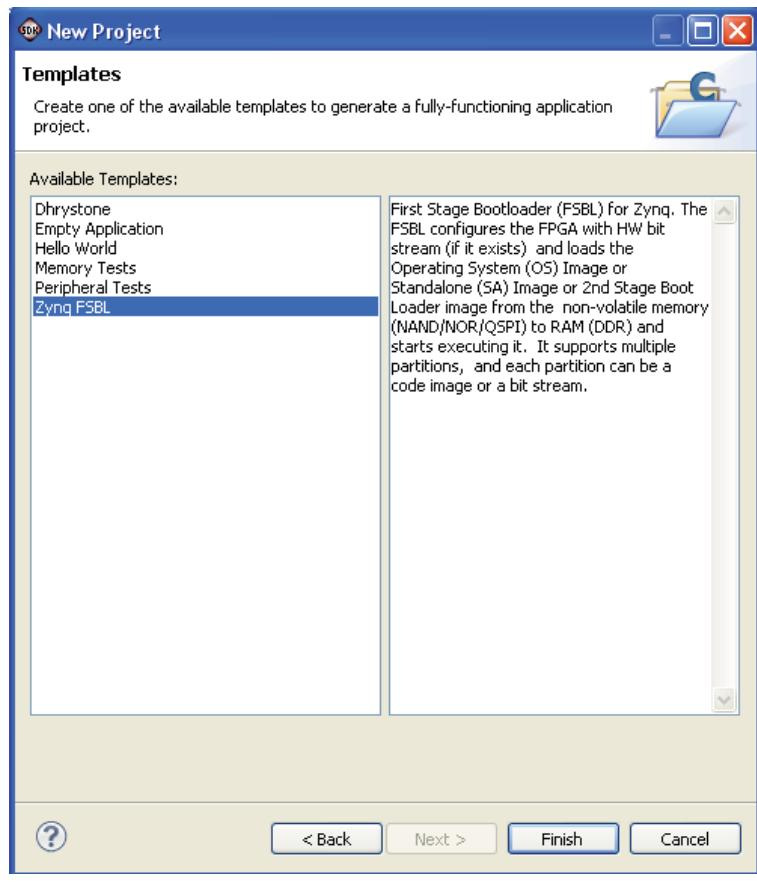

Figure 2-37: Selection of Zynq FSBL
3. Select **Zynq FSBL**. Click **Finish**. See Figure 2-37.